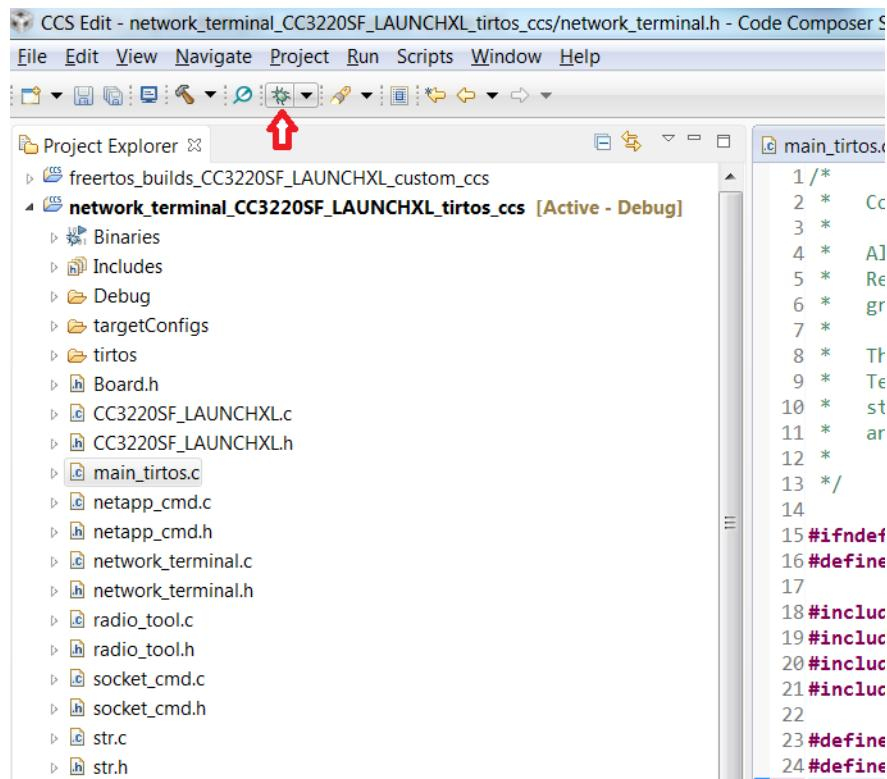

Figure 4-5. Debug Network Terminal
5. Launch application. Select the network_terminal_CC3220SF_LAUNCHXL_tirtos_ccs project in Project Explorer and click on the debug icon as shown in Figure 4-5 to download code to the device and begin debugging. Press F8 to begin execution.